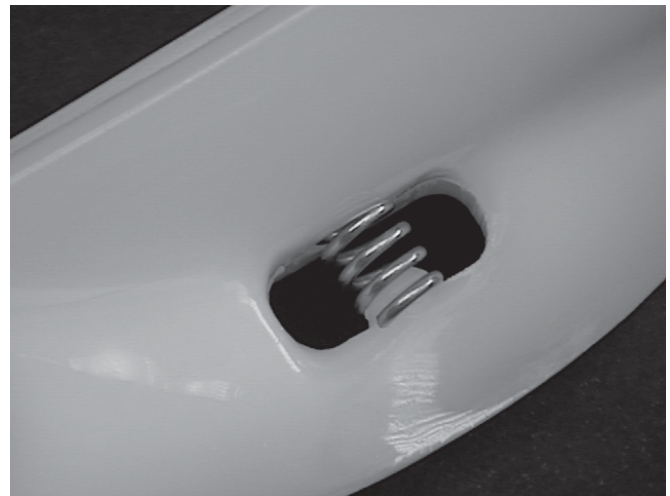

Figure 22. Spring Installation
- G. The refrigeration is automatically actuated when the spigot is opened. For normal dispensing, open the spigot no more than 90°. (This is when the handle knob is pointed directly away from the front door.) This position provides excellent control over the product and aids in making desired shaped portions. Spigot Rate Adjusters are located under the Header Panel, to the immediate right of each Spigot Handle. Turning the Spigot Rate Adjuster clockwise will increase the dispense rate. (see Figure 22)